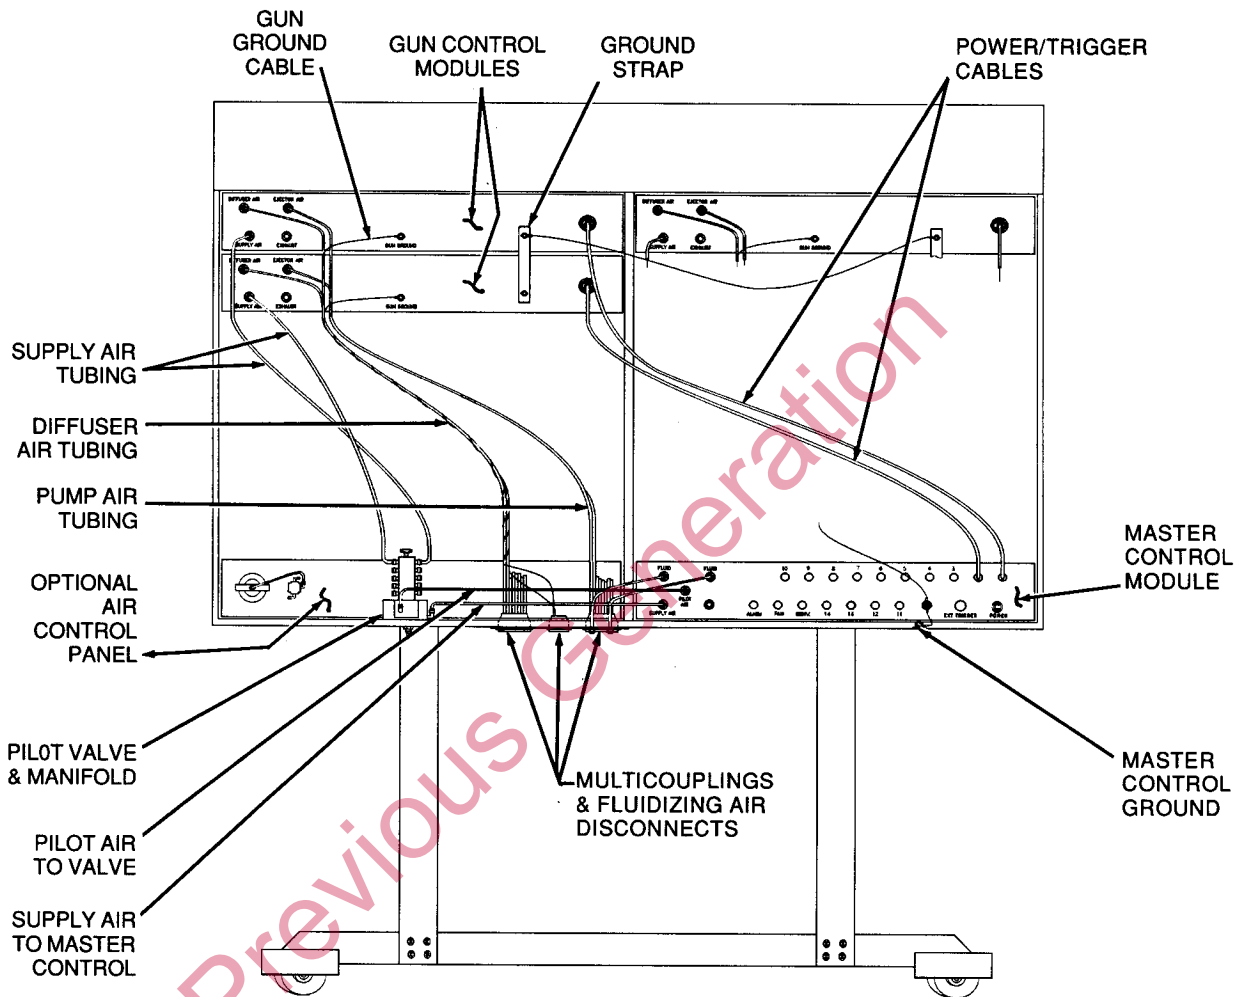

Figure 3-4 — Typical Cabinet Configuration
5. Install the gun control module in the cabinet or rack. Ground the module to the cabinet as shown in Figures 3-4 thru 3-6, or, using a copper strap (P/N 630 885), connect it to an adjacent module.